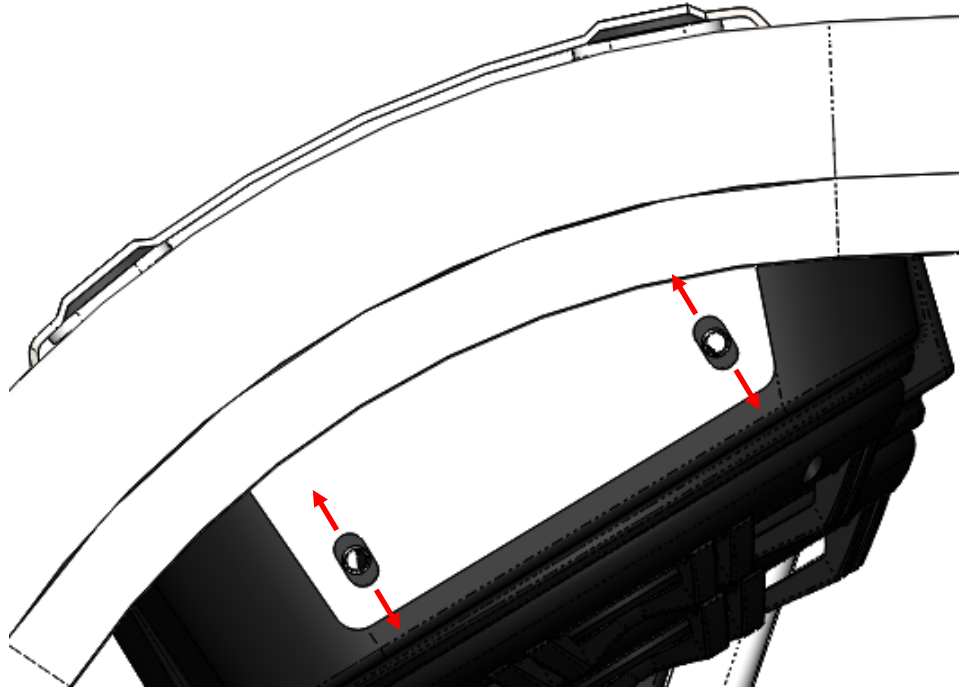

Figure 8: Up-down adjustability of the Audio Mini.
- Tighten the 4 mounting bracket bolts after achieving the desired viewing position relative to the visor. Slots in the brackets allow for adjustability to achieve your desired viewing position. See Figure 8.